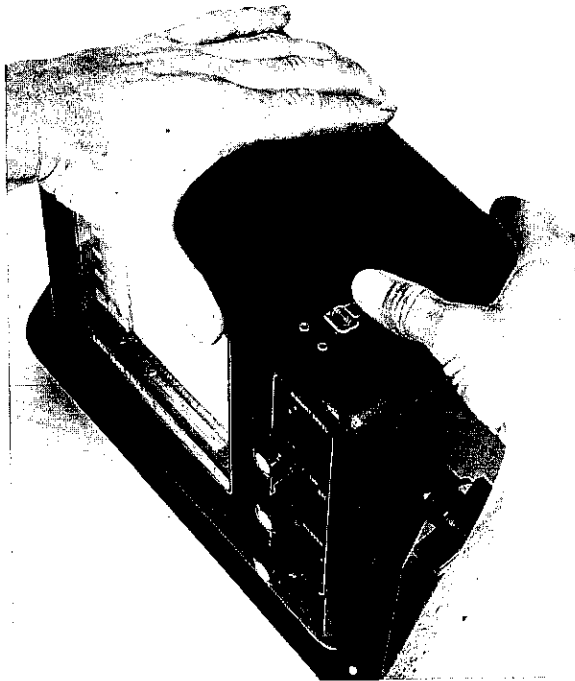

Fig. 33
11. Close the front of the case. Latch both catches on the top of the case. (See Figure 33.)